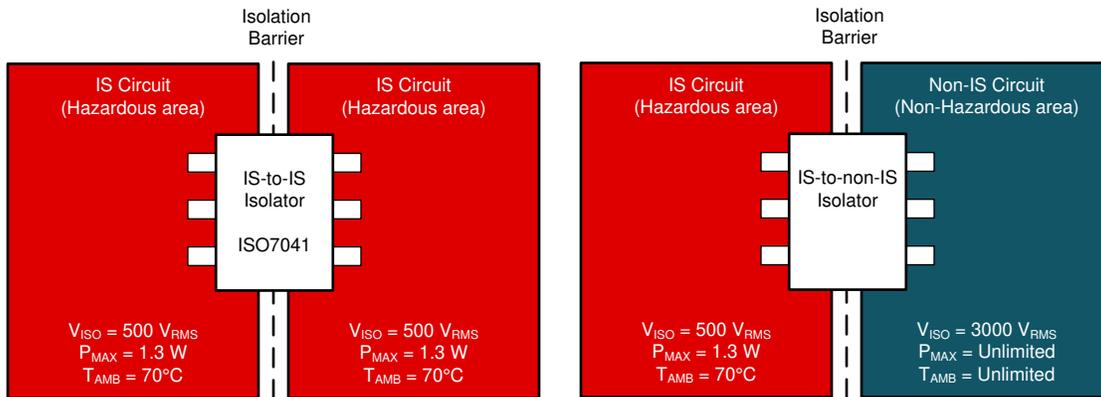

Figure 2. Digital Isolator Between Separate Intrinsically Safe (IS) Circuits
From the explosive atmosphere standards perspective, the universe is divided into two areas: hazardous and non-hazardous; see Figure 2. The equipment used in the hazardous areas is called intrinsically safe (IS) equipment, whereas the equipment used in the non-hazardous area is called non-intrinsically safe (non-IS) equipment. In the hazardous-area, the presence of gas and dust create an explosive environment and therefore the energy level (voltage and current) and storage elements (capacitance and inductance) should be limited to avoid spark or excessive heating. Power and ambient temperature levels should also be restricted in the hazardous area. In the non-hazardous area, there are no dangerous conditions in the environment and therefore there is no cause or fear of explosion and thus no intrinsic safety related constraints on the power and ambient temperature levels. In the hazardous area, since the voltage levels are only allowed to go up so high, the isolation withstand voltage is only tested at 500 V_{RMS} whereas the voltage in the non-IS-area can go much higher and the corresponding isolation withstand voltage can be 3000 V_{RMS} or higher.